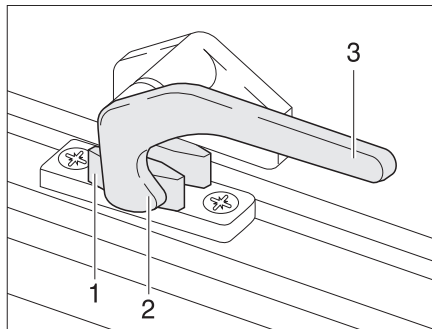

Fig. 75 Catch lever in "closed" position
- Turn the catch lever (Fig. 75,3) a quarter turn towards the centre of the window.
- Turn the catch lever (Fig. 75,3) a quarter turn towards the window frame. The locking catch (Fig. 75,2) is located on the inside of the window catch (Fig. 75,1).
- Firmly closed (Fig. 75).